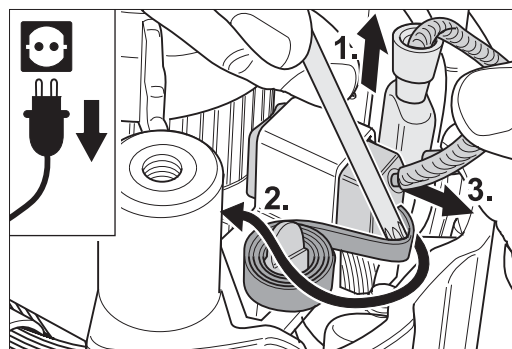

Fig. 42 Pull off the connector, turn the brass pressure clamp to the back and remove the carbon brush.
- 3 Pull off the connector **of one of the** carbon brushes from the carbon holder (Fig. 42).
- 4 Use the universal spanner to turn the brass pressure clamp so that it faces the back and remove the worn carbon brush (Fig. 42).